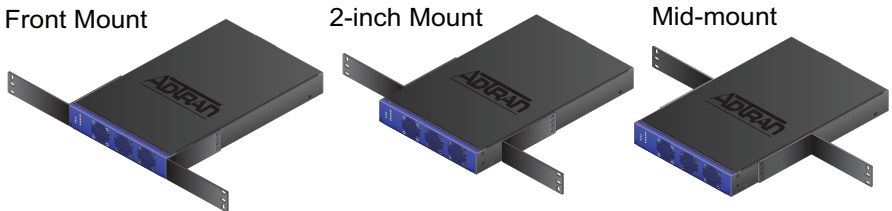

Figure 1. Rack Mounting the NetVanta 1131 Using the Brackets
1. Securely fasten the rackmount brackets to the NetVanta 1131 using the screws provided with the unit. The brackets can be attached in flush mount, 2-inch mount, and mid-mount positions (see Figure 1) depending on your installation requirements. **Important!** To avoid damaging the unit when attaching the mounting brackets, use only the screws supplied with the unit.